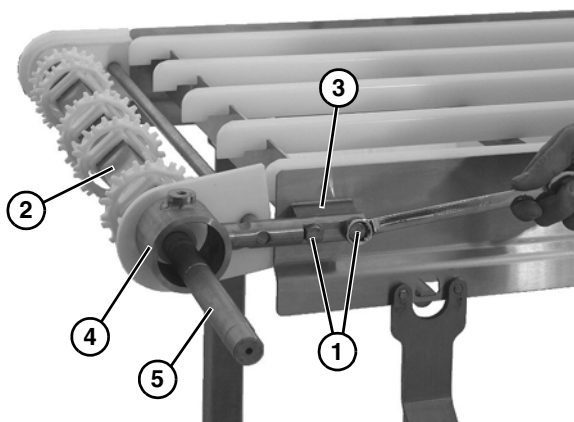

Figure 58
- Remove two bolts (**Figure 58, item 1**) on each side, and slide the drive tail assembly (**Figure 58, item 2**) off the mounting posts (**Figure 58, item 3**).
- Slide the motor support bracket (**Figure 58, item 4**) off the drive spindle shaft (**Figure 58, item 5**).